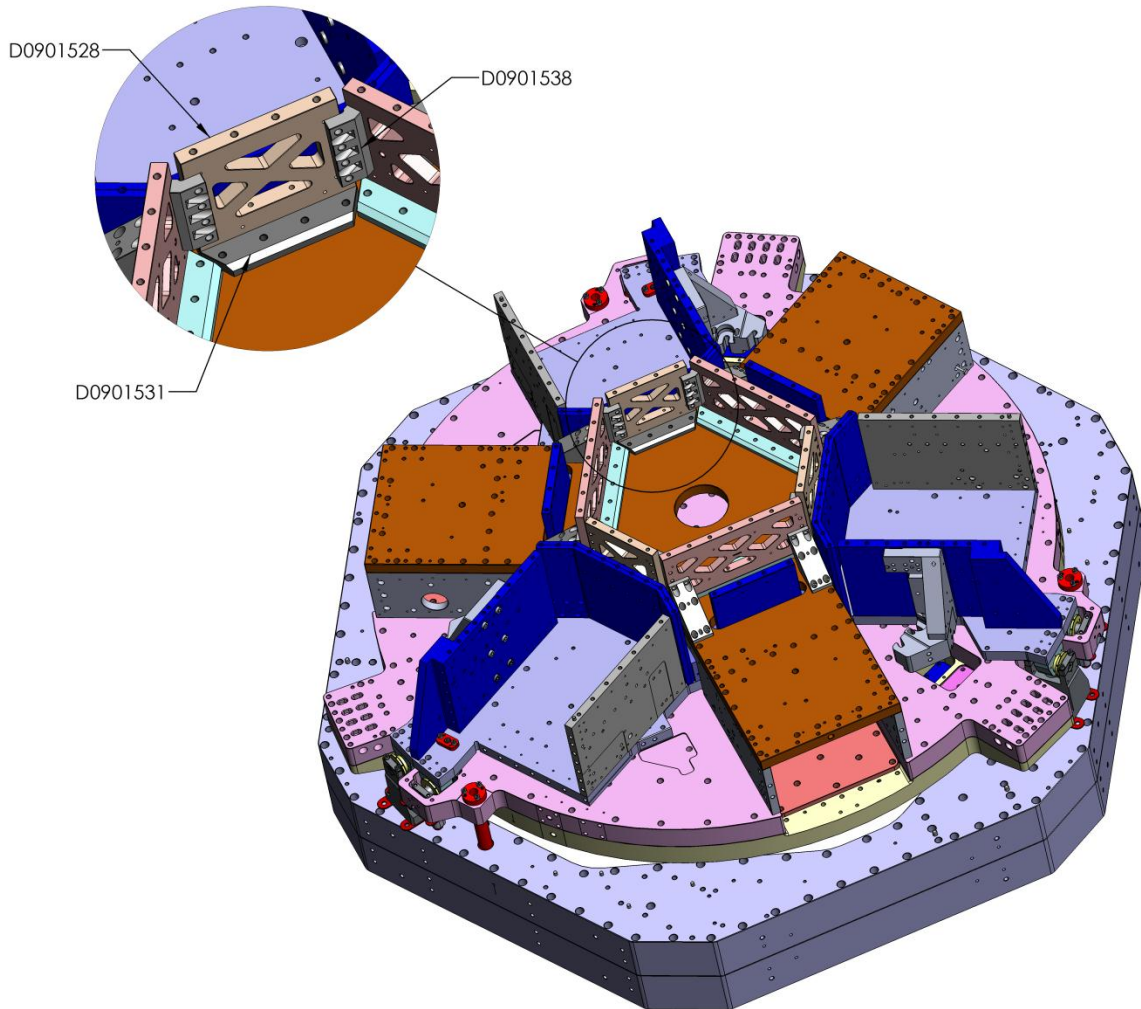

Figure 55: Stage 2 Partially assembled
(7) 3/8 Vented Washers - UCC-WFV-38
- Locate D0901538 Bracket Hex Wall between D0901526 Larger Upper Hex Wall & D0901528 Small Upper Hex Wall as shown on Figure 55.
- Repeat this step for the (5) other D0901538 Bracket Hex Walls.
- Once all the (6) D0901538 Bracket Hex Walls are loosely attached to the assembly, snug them all and **torque them to 329 in.lbs (27 ft.lbs).**